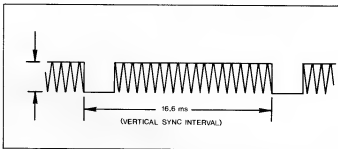

Figure 33. Waveform Used to Adjust Clock Frequency. Scope Time-Base Locked to 60Hz Power Line
3. Push "Clear" button on console and adjust slug slowly for zero waveform drift. See Fig. 33. Guard against overadjustment.